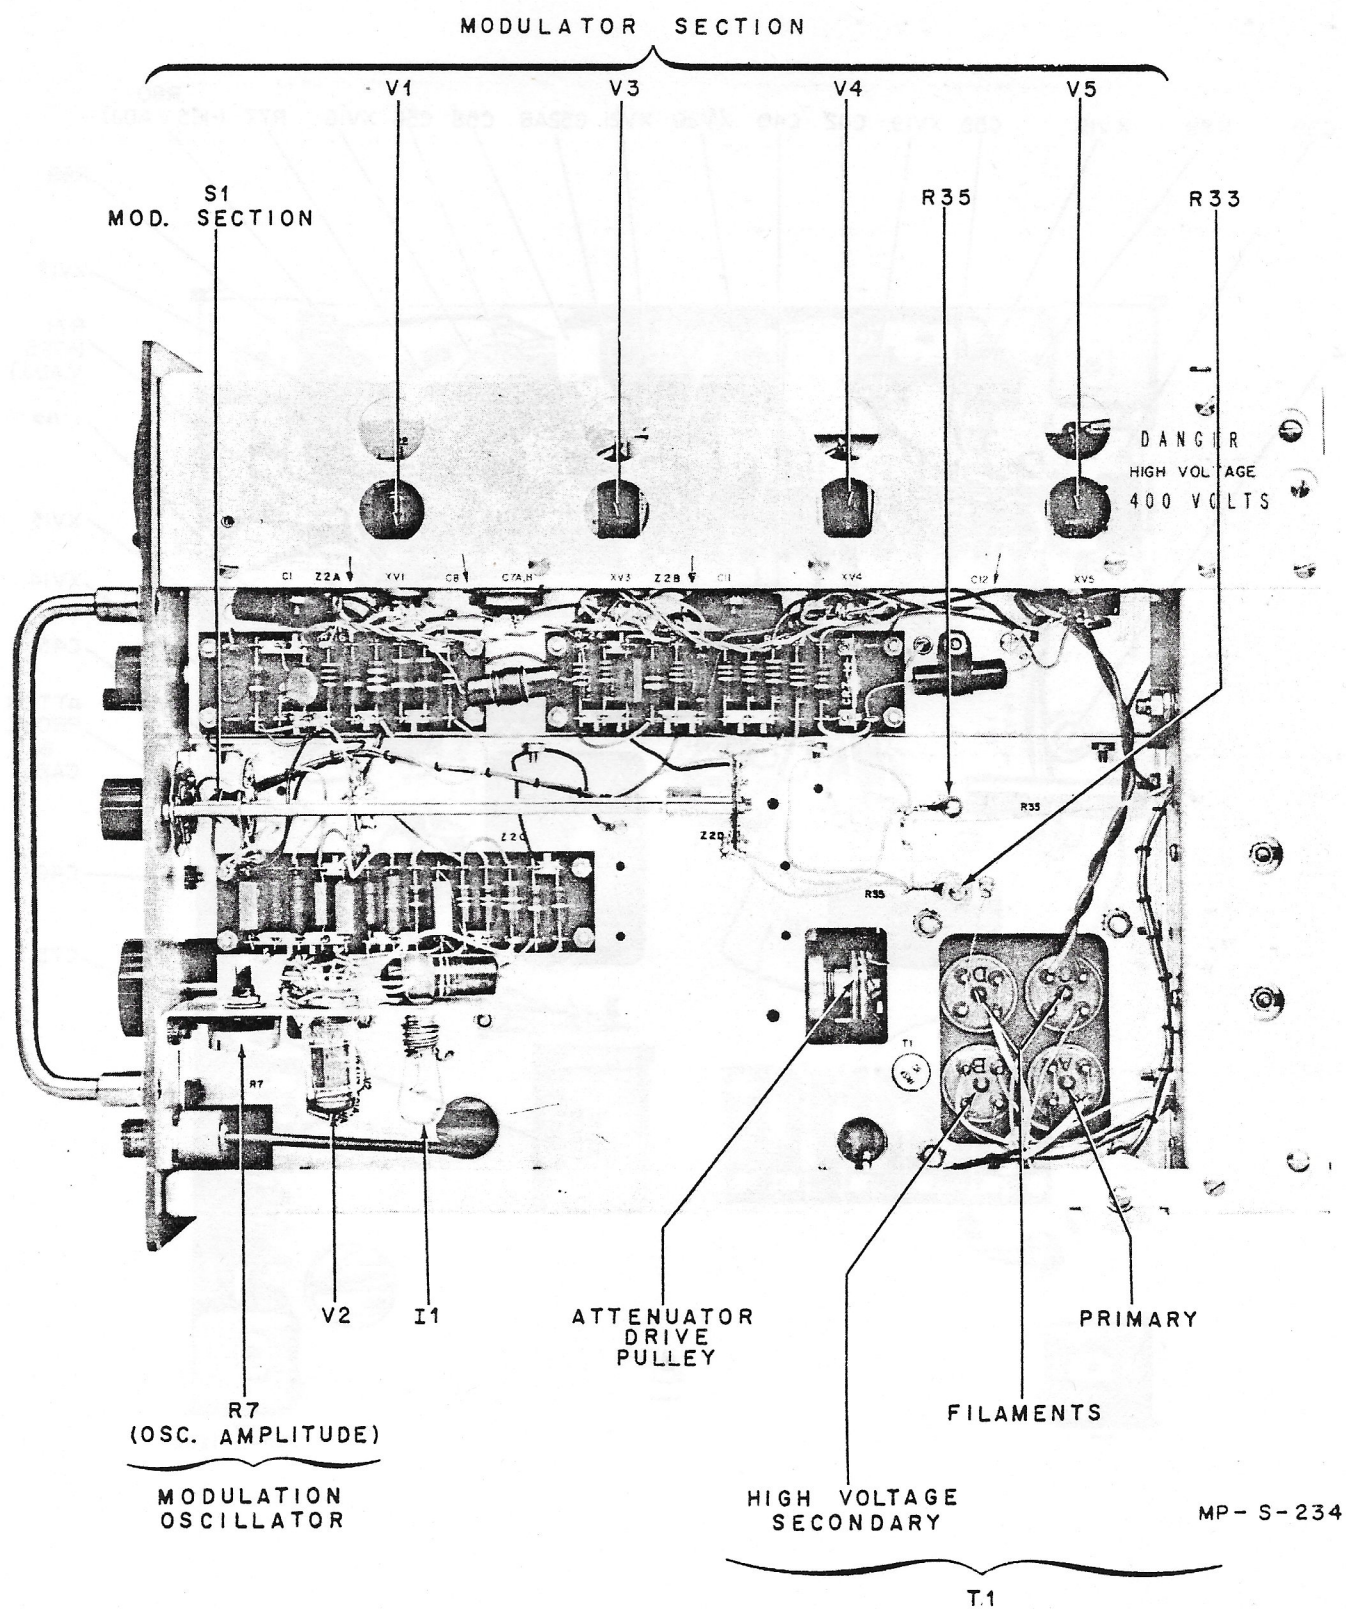

Figure 4-8. Signal Generator Model 608C Right Side View,
- h. Adjust R104 (see Figure 4-8) to provide a reading of 80% on the PERCENT MODULATION meter.